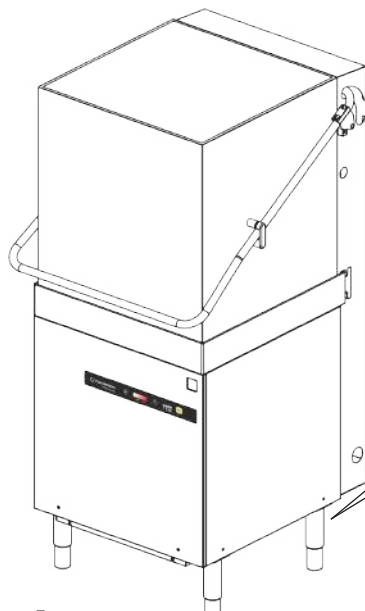

Fig. 4
3.1.c ELECTRIC CONNECTION (Fig. 4/6)
- Before performing the electrical connection, make sure that the data on the power line correspond to those indicated on the rating plate (pos. 3 Fig. 4) and that the main electric power switch upstream of the machine is disconnected (position O/OFF).
- Connect the power cable (6) to the main switch upstream of the machine.
- Connect the equipotential earth electrode to the terminal (8).